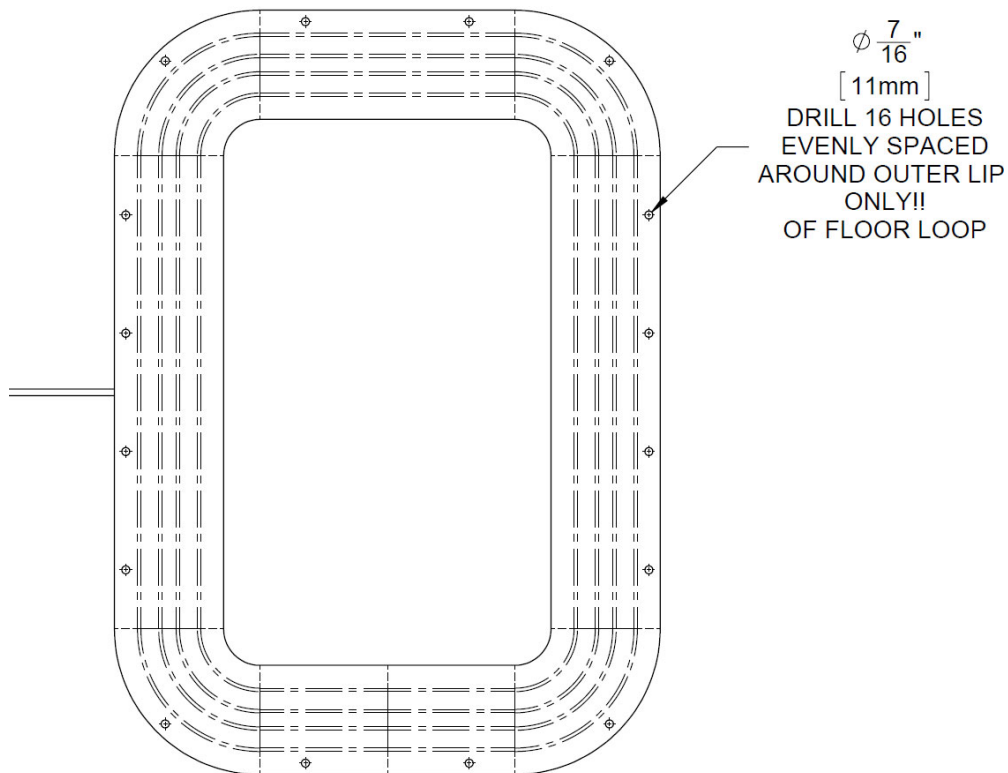

Figure 147 - Floor Loop Detector Mounting Holes
- Mark (16) holes in the outer edge of the floor loop detector as shown in Figure 147.